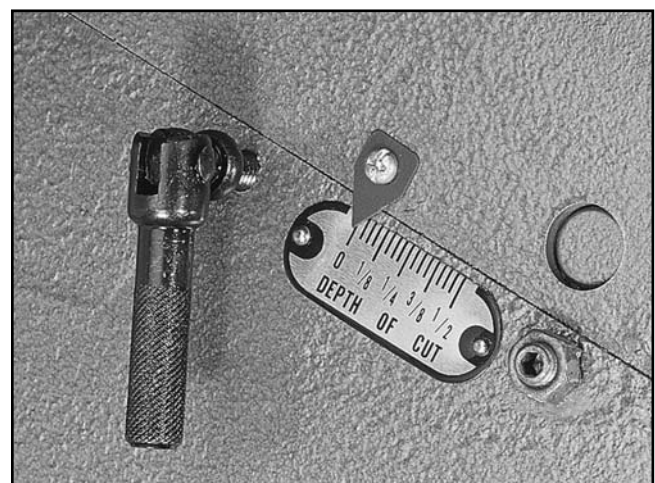

Figure 33. Pointer set to 0.
5. Set the pointer shown in **Figure 33** to 0 on the depth indicator scale.